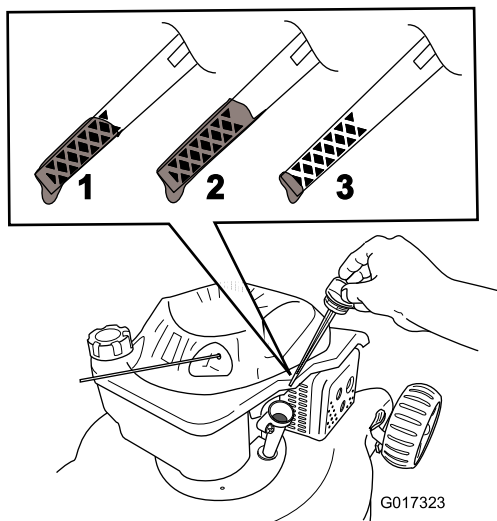

**Figure 20**
5. Tip the mower onto its side, with the dipstick down, to drain the used oil out through the oil fill tube (Figure 20).